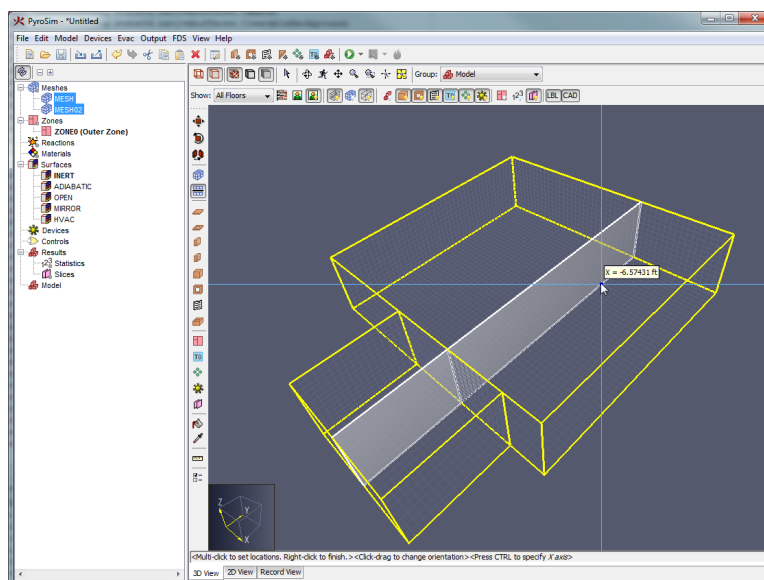

Figure 83. Meshes being split by the mesh splitter tool
3. Move the cursor over one of the meshes. A preview slice will show where the meshes will be split as shown in Figure 83. By default the tool will choose the split axis based on the nearest boundary edge of a selected mesh. The split axis can be explicitly set through the right-click menu, in the tool properties dialog, by click-dragging the left mouse button, or by pressing **CTRL** on the keyboard to cycle through the options.